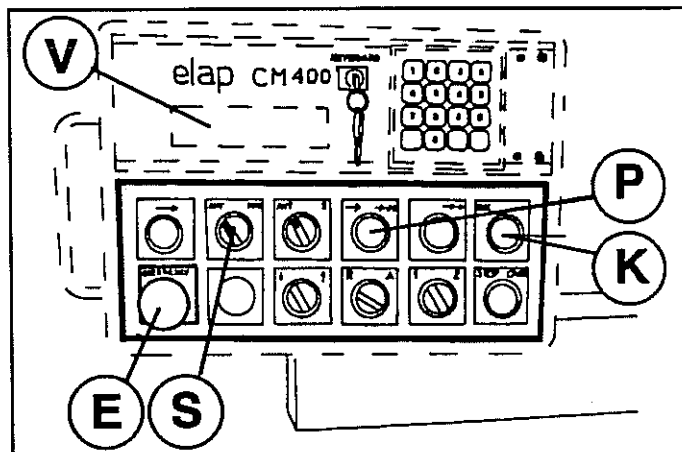

Fig.3.2
- 2- Position the selector (S fig.3.2) in the manual position.